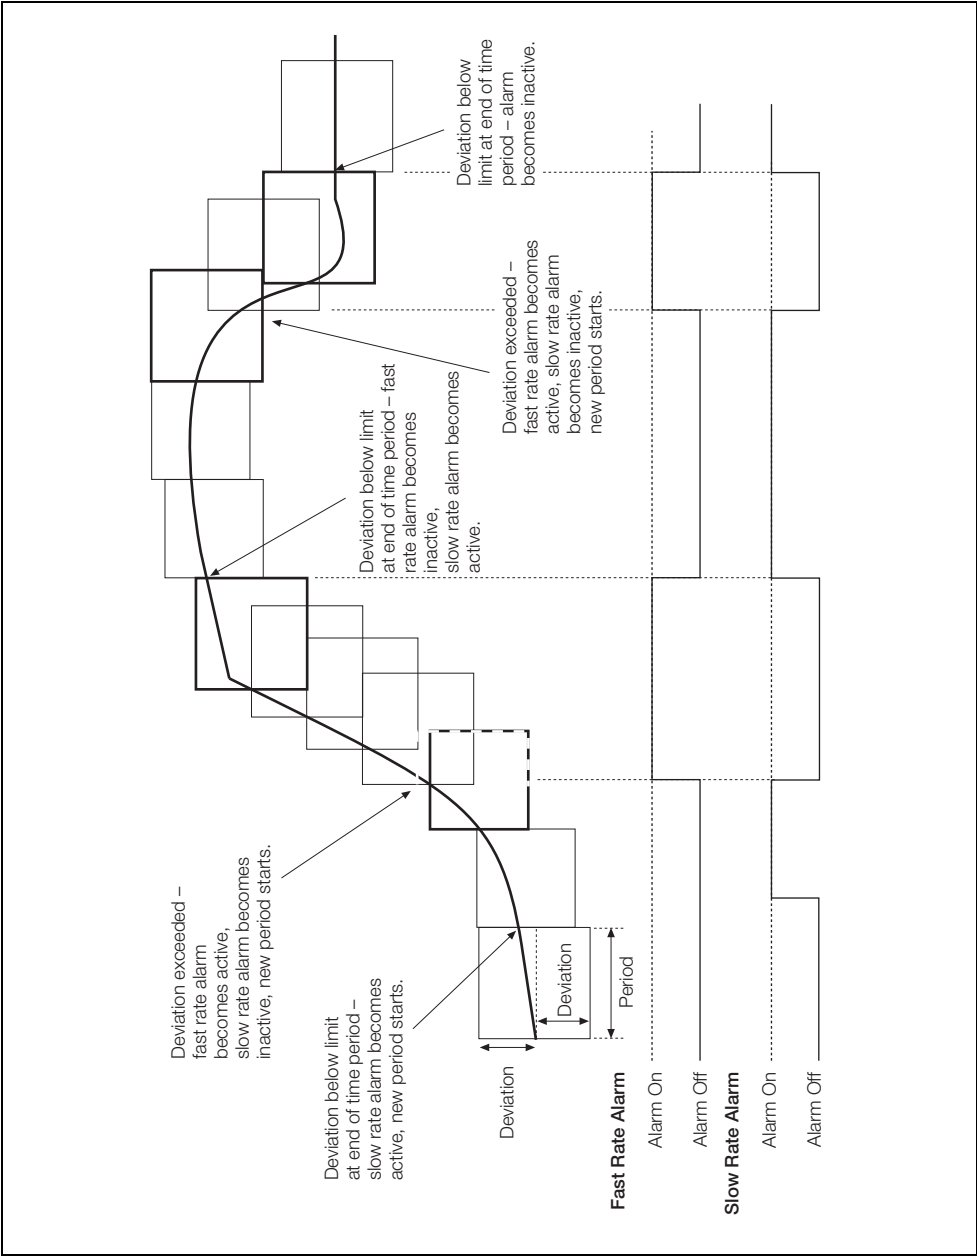

Fig. 7.14 Fast-/Slow-Rate Alarms
- Fast/Slow rate – see Fig. 7.14, page 102
- Rate alarms only – see Fig. 7.14, page 102.